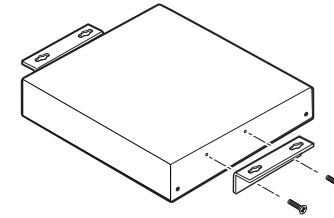

Figure 2-6 — Attaching the under desk brackets
- Attach the mounting brackets to the interface using four machine screws supplied with the mounting kit (see figure 2-6).